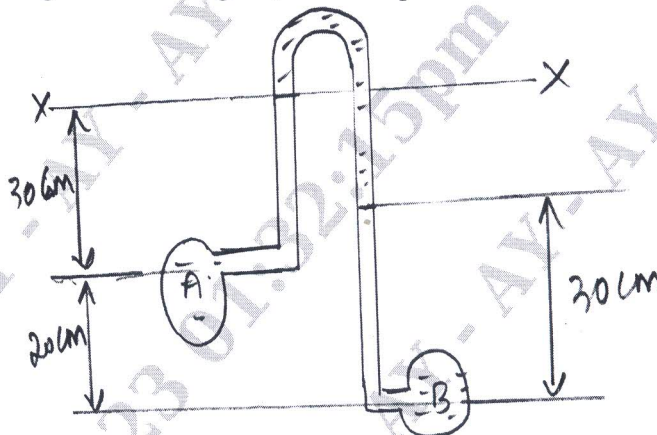

Fig Q2(b)
- b. An inverted differential manometer is connected to two pipes A and B as shown in Fig Q2(b), which conveys water. The fluid in monometer is oil of specific gravity 0.8. For monometric readings shown in figure, find the pressure difference between A and B.